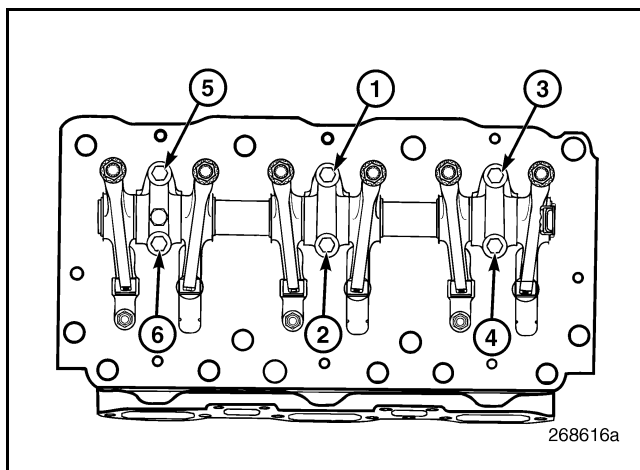

Figure 385 — Rocker Shaft Assembly Capscrew Tightening Sequence
- Beginning at the center mounting bracket with capscrew No. 1, tighten the capscrews in the sequence shown in Figure 385. Tighten the capscrews to the specified torque, 45 lb-ft (61 N·m), using an accurately calibrated torque wrench J 24407, or equivalent.